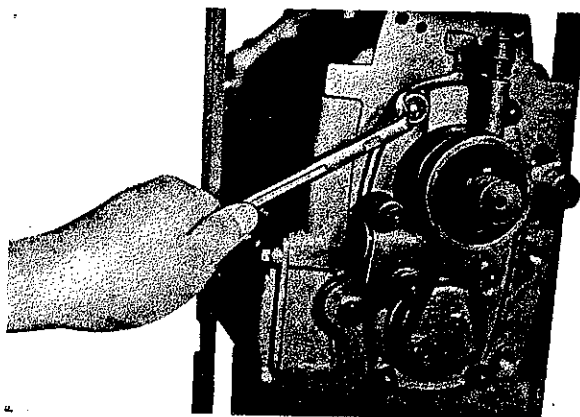

Fig. 3
- 4.2 Unscrew nuts (102) (Fig. 3) and screw (507). Remove tachometer cover. Push shaft sealing ring (804) out of cover.